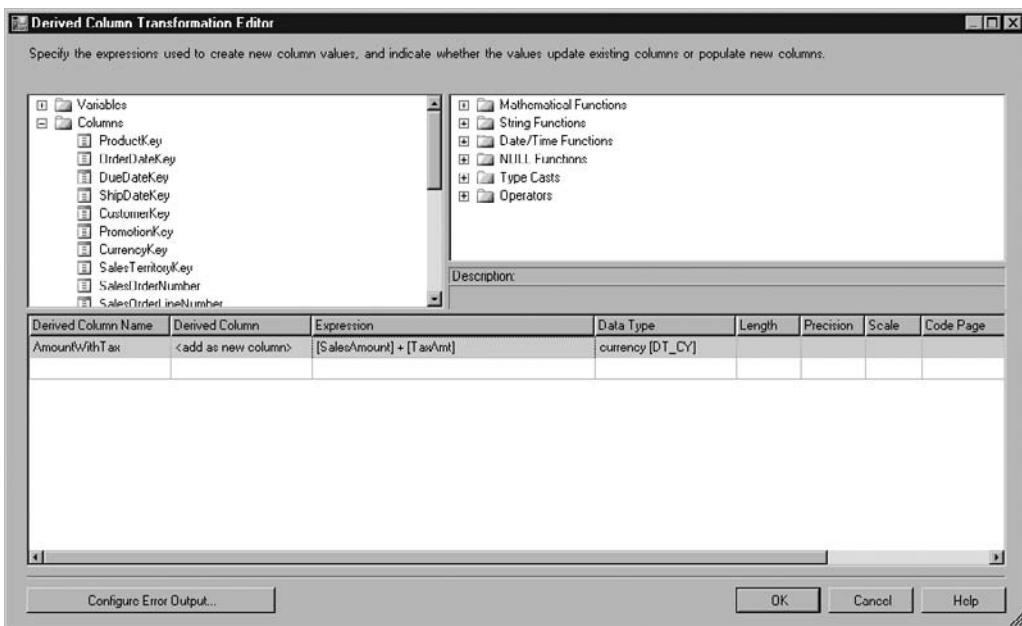

Figure 7-69 The Derived Column Transformation Editor dialog box
**Derived Column** derived from an expression. The expression can use values from variables and the content of columns in the data flow. The value can replace the content of an existing column or be added to the data flow as a new column. Figure 7-69 shows the Derived Column Transformation Editor dialog box defining a new column, *AmountWithTax*, which contains the sum of the *SalesAmount* and *TaxAmt* columns. The Derived Column transformation uses the same Configure Error Output dialog box as the Conditional Split transformation.